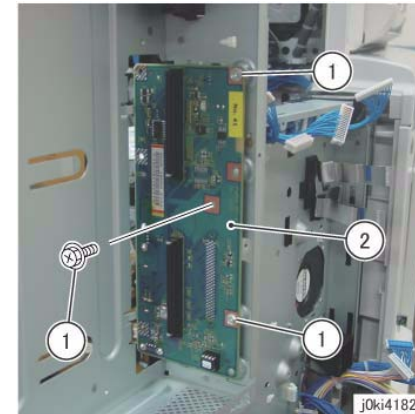

Figure 5 Remove the BP PWB
12. Remove the BP PWB. (Figure 5)